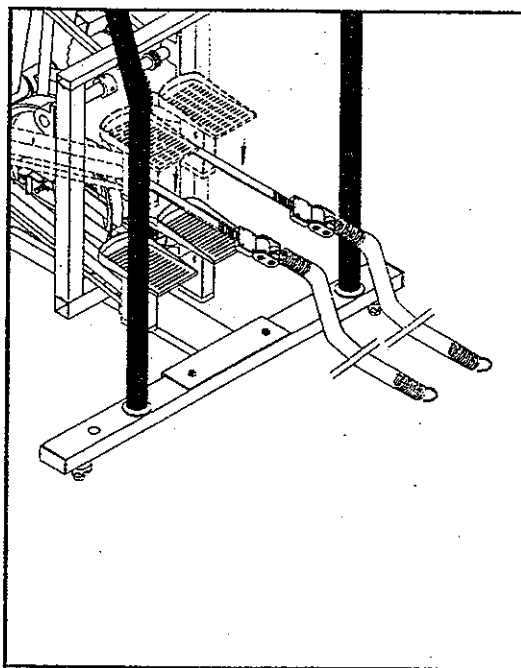

Fig. 9
8. Lower the foot pads to their lowest position, then slide out the springs (see Fig. 9)